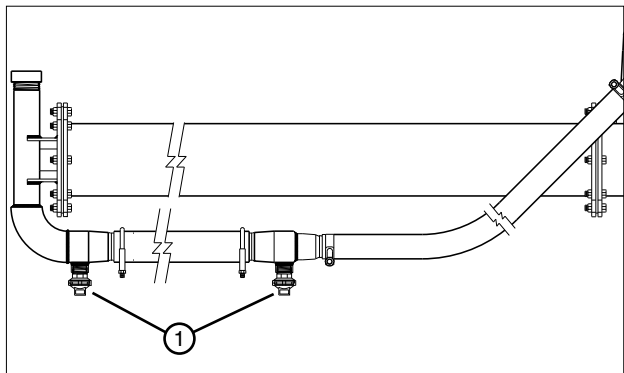

Figure 40-2 1. Booster Pump Hose Drain
- Make sure the booster pump hose drain is not plugged with sand. See Figure 40-2.